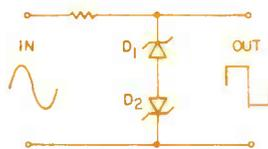

Fig. 5. A symmetrical two-Zener wave shaper.
This imperfection is of no consequence in many applications, but Fig. 5 shows how two Zeners can be connected to produce a symmetrical output waveform. Note that the diodes are connected in series, back-to-back. Thus, when a positive signal is applied to the cathode of the top diode, it will conduct in the reverse direction when its Zener voltage is reached, and will be conducting in series with the forward conduction path of the second Zener. The total voltage drop will be equal to the Zener voltage of the top diode plus the forward conduction voltage drop of the bottom diode. When the input signal reverses its polarity, conduction in the opposite direction will take place, but only after the bottom diode reaches its Zener voltage. The peak-to-peak voltage of the output signal will be equal to the sum of the two Zener voltages plus the forward voltage drops of the two Zeners. Thus, if 6.2 volt Zeners were used in this circuit the output would be 13.8 volts peak-to-peak. Since conduction will take place only when the Zener voltage is reached in either direction, the output waveform will be symmetrical.
3. If  $D_1$  in Fig. 5 were to develop an internal short circuit, no output waveform would be produced by the circuit.